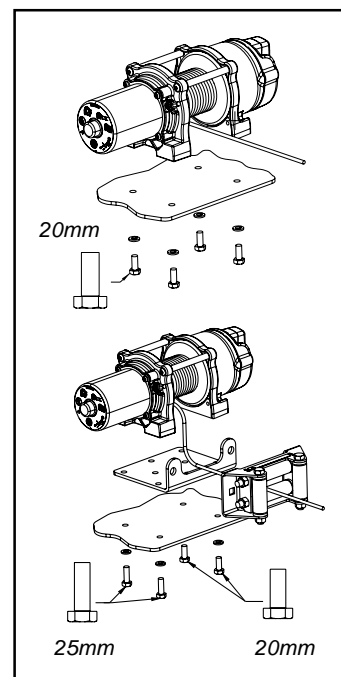

Figure 4: Orientation of winch to mounting plate and bolt lengths.
**Note:** When using separate winch mount and fairlead plates use M8-1.25 X 25 mm grade 8 hex head cap screws on the motor side of the base as shown in Figure 4.